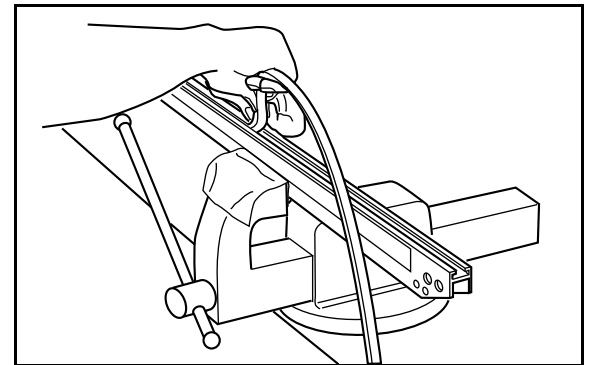

Fig. 19 Place silicon rubber/seal ledge
- 6 Place a new silicon rubber or the seal ledge inside the aluminium bar. See Fig. 19.